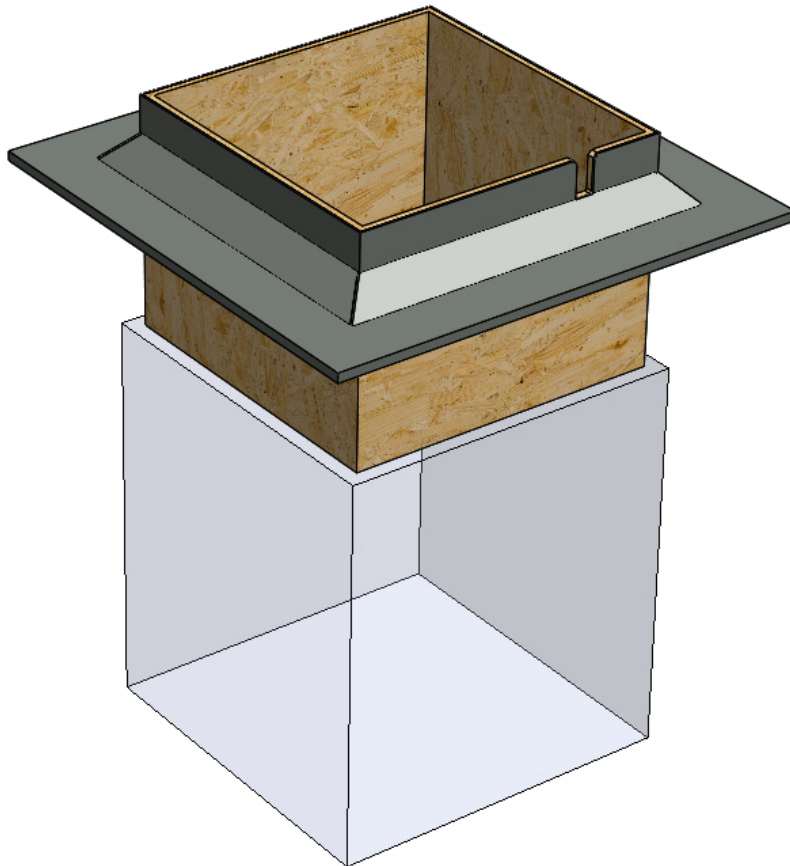

Figure 9 – Upstand dimension details.
1. 18mm Marine plywood upstand to be constructed and fixed by others around the perimeter, with a minimum height of 160mm from the top of the upstand to the roof. This will create an internal opening dimension of 792 x 792mm – see *figure 9*.